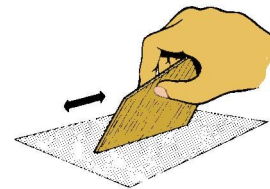

Figure 4
- **Step 7** Cut out all of the fins from 1/16" thick sheet stock. Use 400-grit paper to sand the flat surfaces of all the pieces, and to round over all of the **outer** edges. Do not round over the **root** edges of the fins. As shown in Figure 4, square up the root edges so that the glue surface is as flat as possible with respect to the body tube.